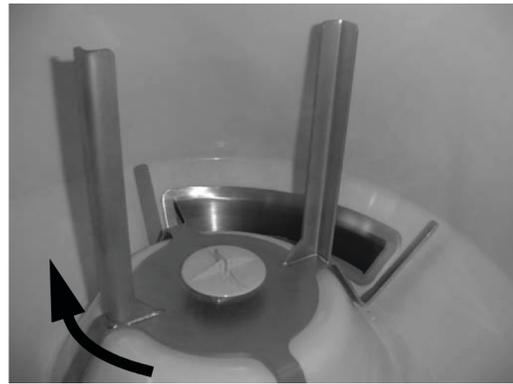

Figure 5. Agitator with slide installed
- 7 Manually rotate the agitator in the hopper, see Figure 5 to check for any interference between agitator arms and ice slide. If agitator arm(s) hit ice slide, carefully bend agitator arm(s) up to eliminate interference.